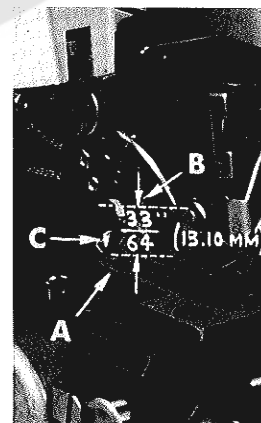

Fig. 3
With throat plate (A, Fig. 3) assembled in position, needle should center in the front end of needle slot. When needle is at high position, needle point should be set $33/64$ inch (13.10 mm) above throat plate (Fig. 3) for Styles 39500 QJ, QL, RP and SJ; $1/2$ inch (12.70 mm) for Styles 39500 QN and SR; and $15/32$ inch
(11.91 mm) for Styles 39500 QV, QX, RU, SX, TG and TY. To align needle or set the height above the throat plate, move needle driving arm (B, Fig. 3) by loosening clamp screw (C). After needle has been properly set, tighten clamp screw and remove throat plate.